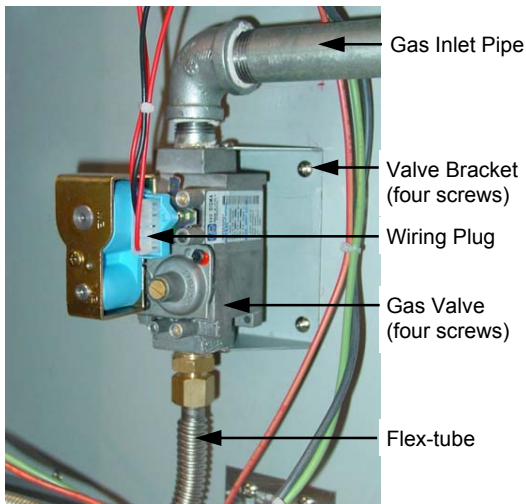

Figure 6.3.24
- 2) Remove wiring plug from valve (refer figure 6.3.24).